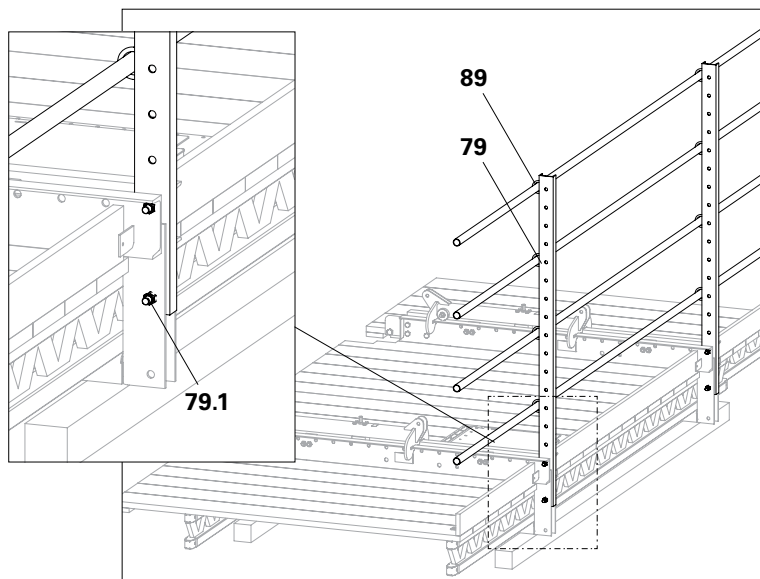

Fig. C2.04
2. Fix Scaffold Tubes  $\varnothing$  48 to the Guardrail Post using Clamp A64 (**89**), see Section "Guardrails" on page 48. (Fig. C2.04)